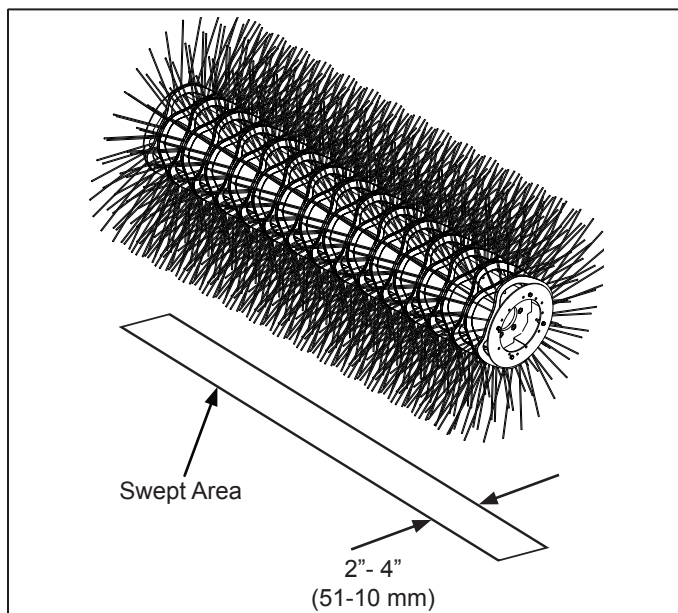

figure 1
4. Raise sweeper and back away; switch off engine and remove key from prime mover. Brush pattern left in dust should be 2-4 inches (5-10 cm) wide, running the length of the brush. (figure 1)